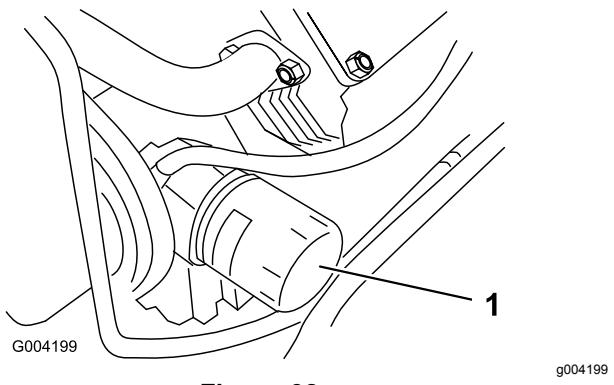

Figure 38
- Remove the old filter (Figure 38) and wipe the surface of the filter adapter gasket.